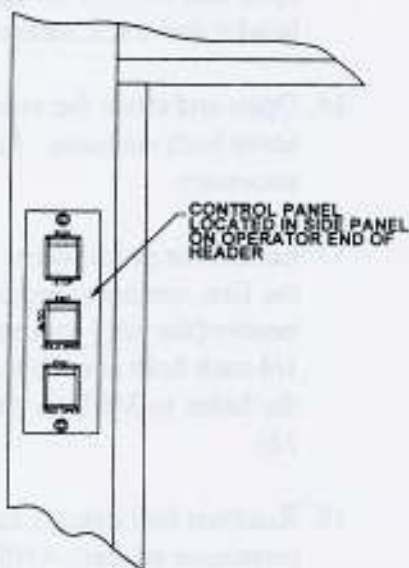

Figure 12
7. Remove the control panel switch assembly from the panel. Save the screws for reinstallation (See Figure 12).
2. Remove the control panel switch assembly from the panel. Save the screws for reinstallation (See Figure 12).
1. Remove the control panel switch assembly from the panel (See Figure 12). Save screws for reinstallation.
1. Locate the control panel switch assembly from inside the header (See Figure 12). Save screws for reinstallation.